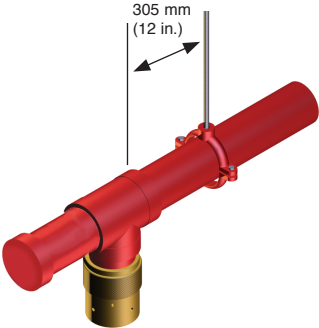

FIGURE 6-19
- Hangers must be placed within 305 mm (12 in.) of the discharge nozzle. See Figure 6-19.